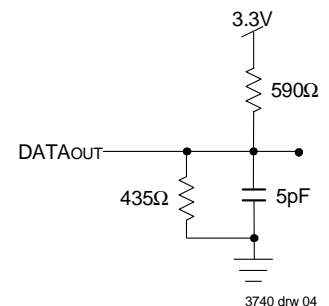

Figure 2. Output Test Load (for tLZ, tHZ, tWZ, tOW)
1. Transition is measured 0mV from Low or High-impedance voltage with Output Test Load (Figure 2).
7. This parameter is guaranteed by device characterization, but is not production tested. Transition is measured 0mV from steady state with the Output Test Load (Figure 2).